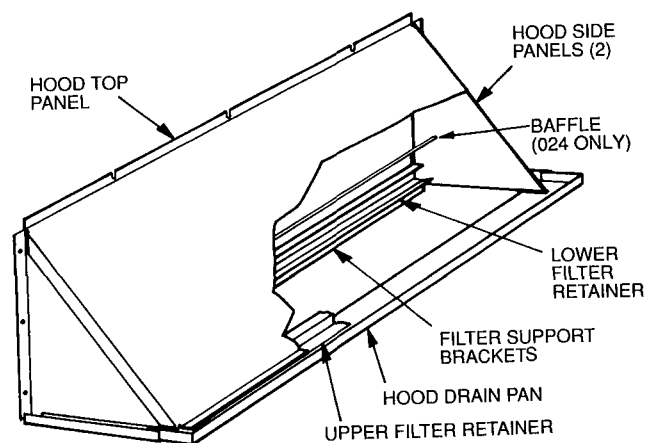

Fig. 18 – Outdoor-Air Hood Details
2. Assemble hood top panel and side panels, upper filter retainer, and hood drain pan (Fig. 18).
3. Secure lower filter retainer and long piece of filter support bracket to unit. See Fig. 18. Leave screws on 024 units loose.